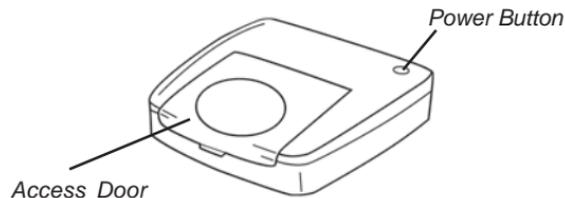

Figure 2
- Press power switch to ON to be ready for applications. (Refer to Figure 2)